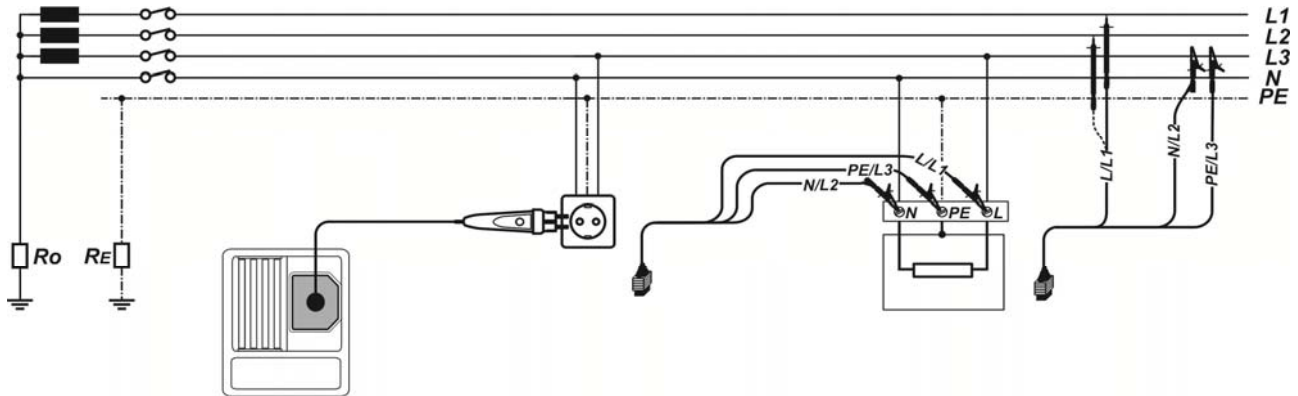

Figure 5.37: Phase-neutral or phase-phase line impedance measurement – connection of plug test cable and 3-wire test lead
- ❑ **Connect** test leads to the item to be tested (see Figure 5.37).